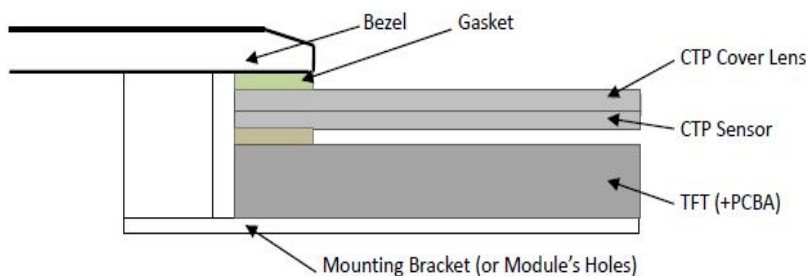

Figure 1
8.1 Bezel Mounting (Figure 1)
8.1 面框安装 (附图 1)